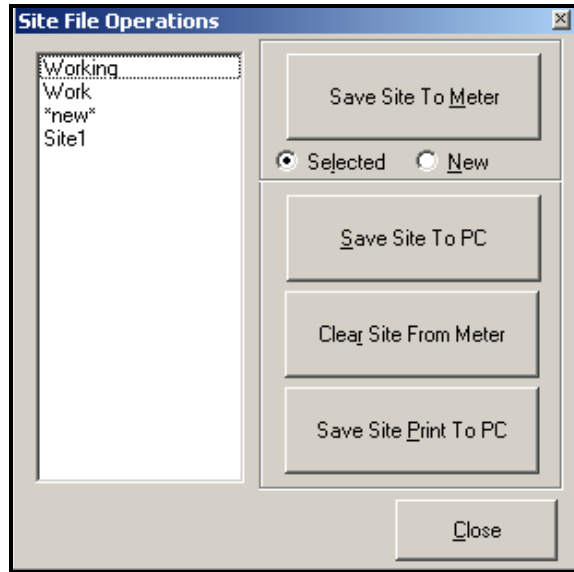

Figure 31: The *Site File Operations* Window
To access site files, click on the *Site Files* button in the *Properties* window. The *Site File Operations* window (shown in Figure 31 below) opens.
1. Highlight the desired site in the left pane. (See Figure 31 on page 106.)
1. Highlight the site in the left pane. (See Figure 31 on page 106.)